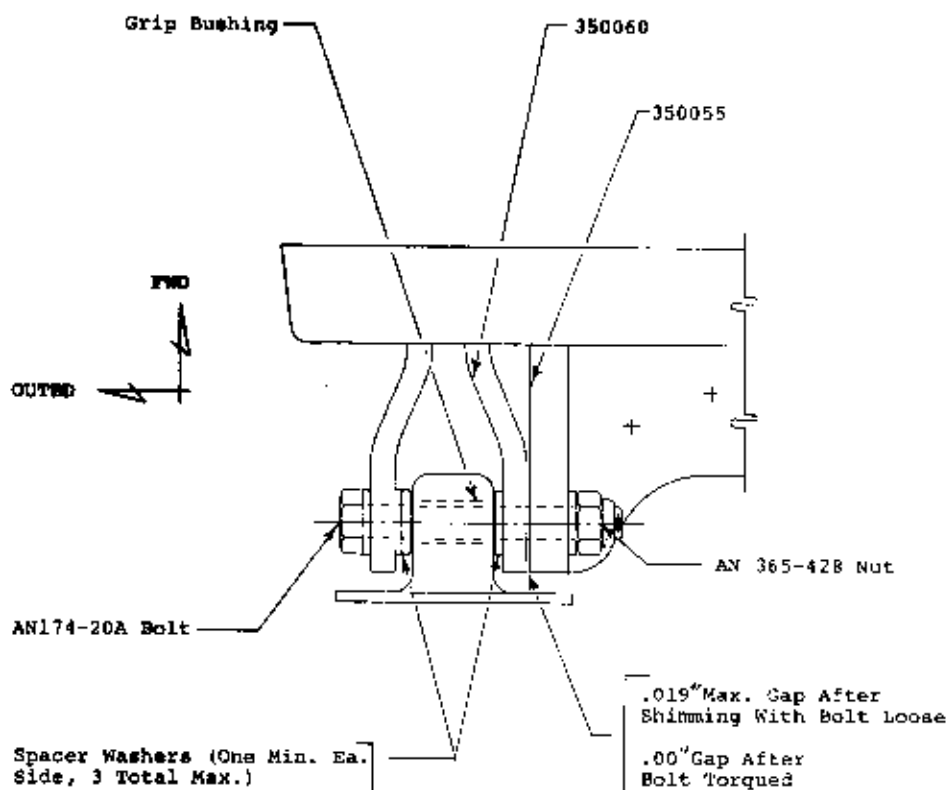

FIGURE 2 (View Looking Up)
- 2) Check torque on the AN 174-20A bolt (Figure 2) 60-70 IN-LBS. dry threads. (Due to the inaccessibility of the nut the torque must be checked on the bolt and consideration must be given to friction in accordance with AC 43-13 Chapter 5, Section 227.)
- 3) Using a .005 feeler gage check between the 350060 bracket and the 350055 fitting (Figure 2). If feeler gage touches shank of bolt continue with Step 4. If gap does not exist no rework is required.